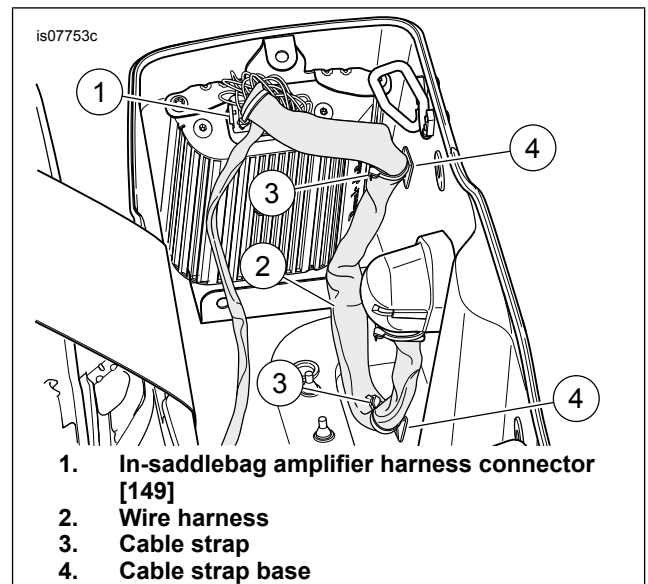

Figure 9. Inner Harness Routing
3. See Figure 9. Install the amplifier cover on the bracket. Secure with three clips.